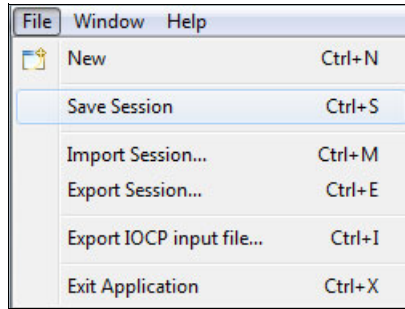

Figure 5-107 CMT - Save session
3. Select **File** → **Save Session** (Figure 5-107).